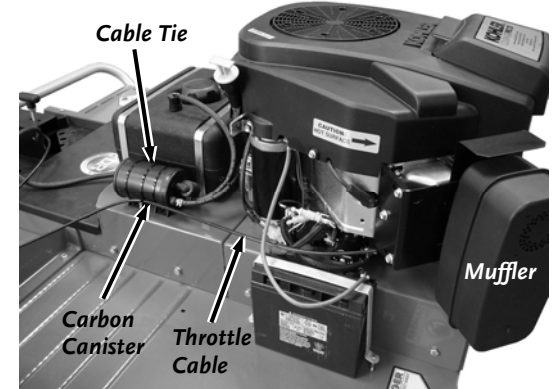

Figure 14
1. Route the Throttle Control Cable from the Tow Bar next to the Carbon Canister (**Figure 14**).
8. Pull the excess Cable away from the Muffler area and secure to the Carbon Canister with a Cable Tie (**Figure 14**).